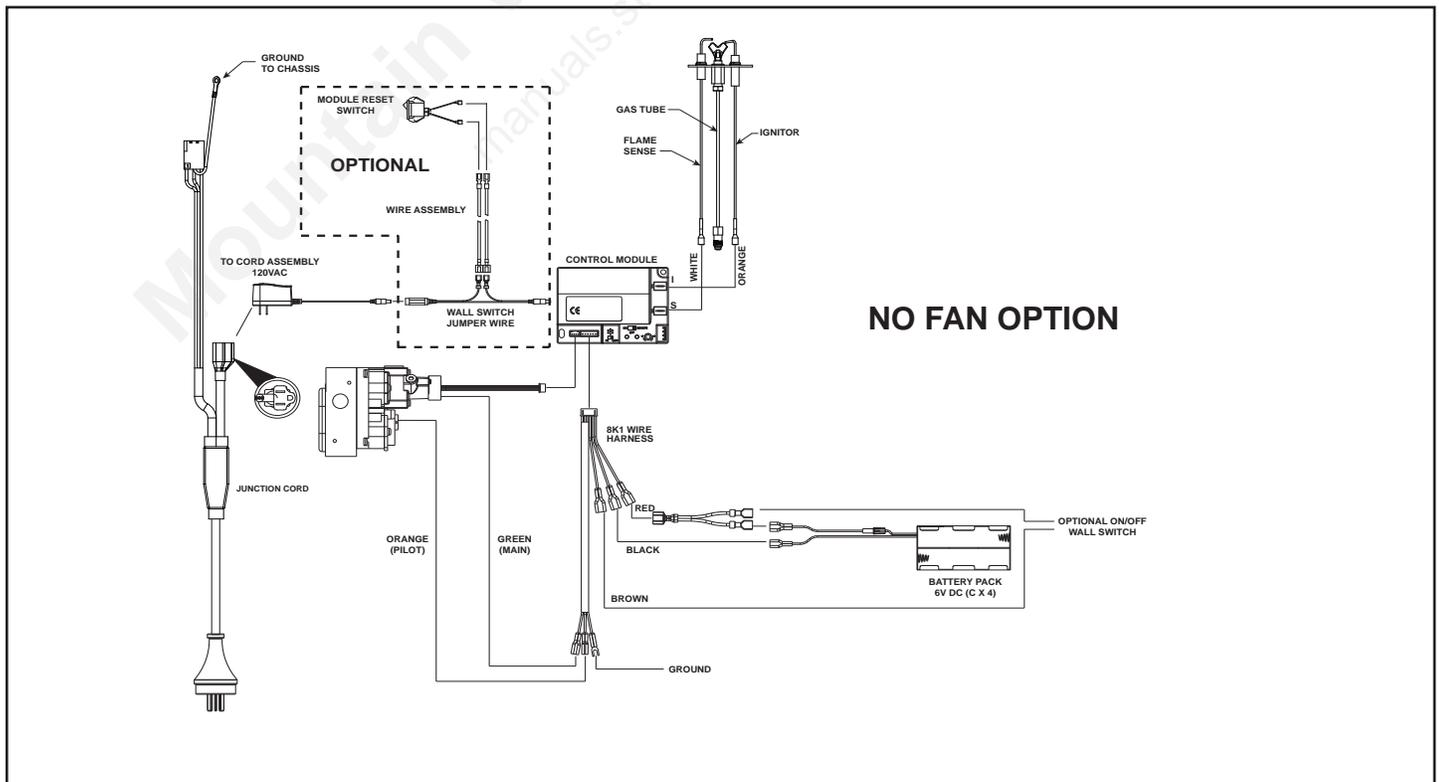

Figure 12.1 IPI Wiring Diagram /RC300AU
- Refer to Figure 12.1, IPI Wiring Diagram.